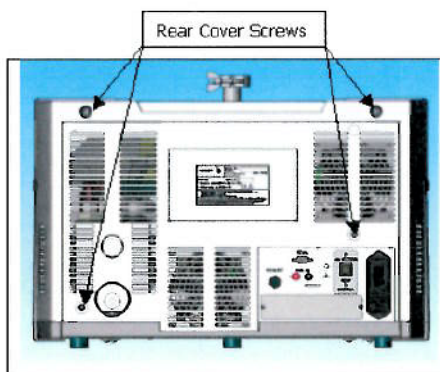

Figure 1-5 Location of Rear Cover Screws
2. Use the hex wrench provided to remove the rear cover by removing the four screws (Figure 1-5).